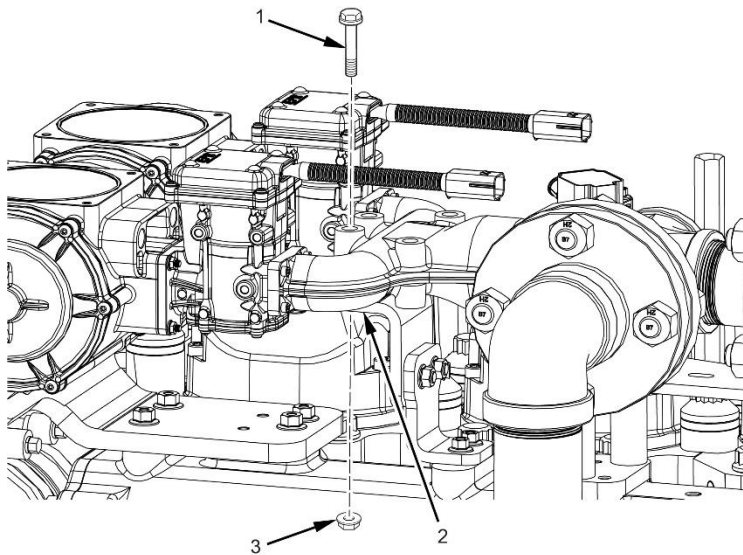

Figure 29. DEPR Bracket Assembly
5. Remove two bolts (Figure 29, Item 1) and two nuts (Figure 29, Item 3) from dual DEPR bracket (Figure 29, Item 2).
6. Install two bolts (Figure 29, Item 1) and two nuts (Figure 29, Item 3) to dual DEPR bracket (Figure 29, Item 2).